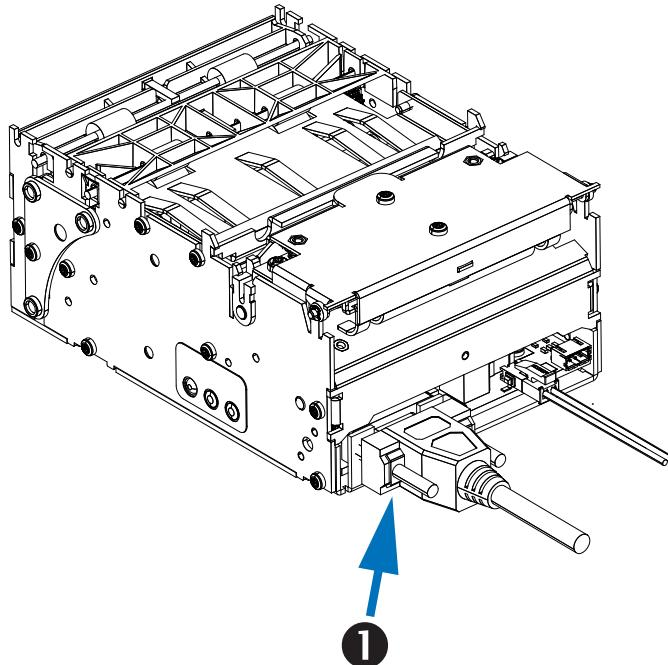

Figure 7 • Serial Connection
Refer to Figure 7. The required cable must have a nine-pin "D" type (DB-9P) male connector on one end, which is plugged into the mating (DB-9S) serial port located on the back of the printer ①. The other end of this signal interface cable connects to a serial port at the host computer. Depending on the specific interface requirements, this will most likely be a Null Modem (cross-over) cable.